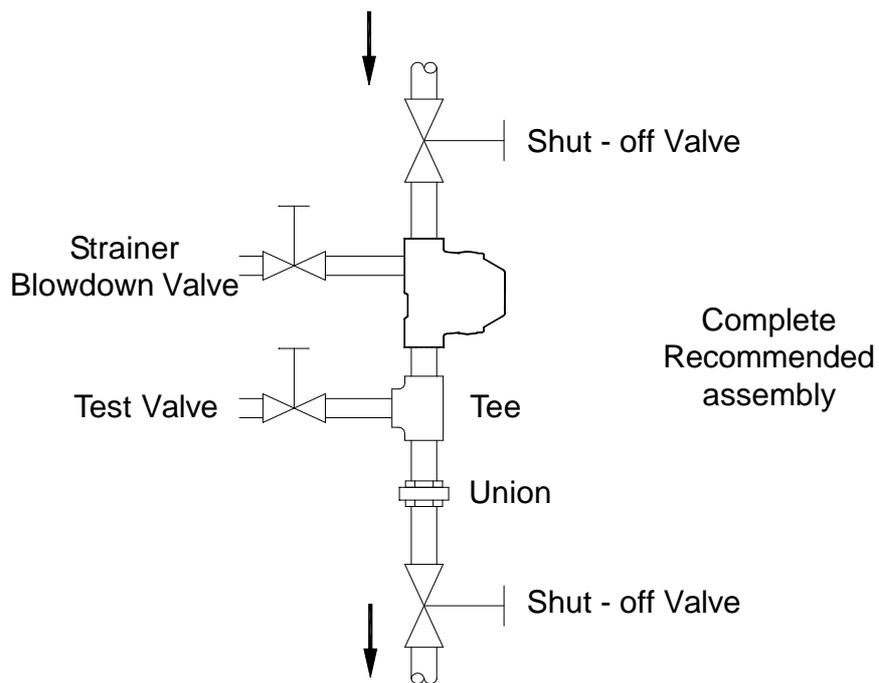

Fig. 11
- i. For checking operation of the trap when installed in a closed return system a test valve can be fitted as shown as in fig 11. Alternatively the trap can be supplied with a thermometer fitted to the outlet connection, or a contact temperature recorder used to measure the temperature differential across the trap. Ultrasonic meters must be used with care if the trap is operating in a continuous discharge mode as the results indicated can be misleading.
- k. Clean strainers periodically otherwise they may plug up and prevent the free flow of condensate. For efficient, fast and economical cleaning, install a small valve to the strainer blowdown connection (optional) as in Fig 11.